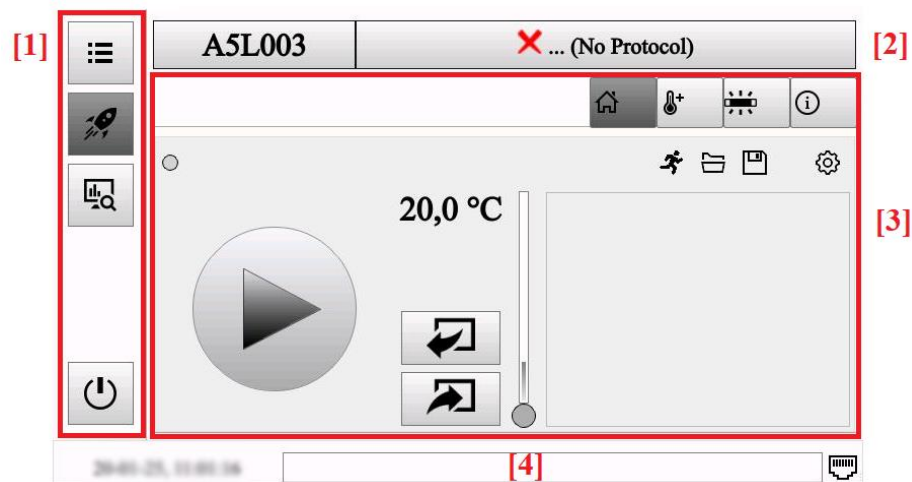
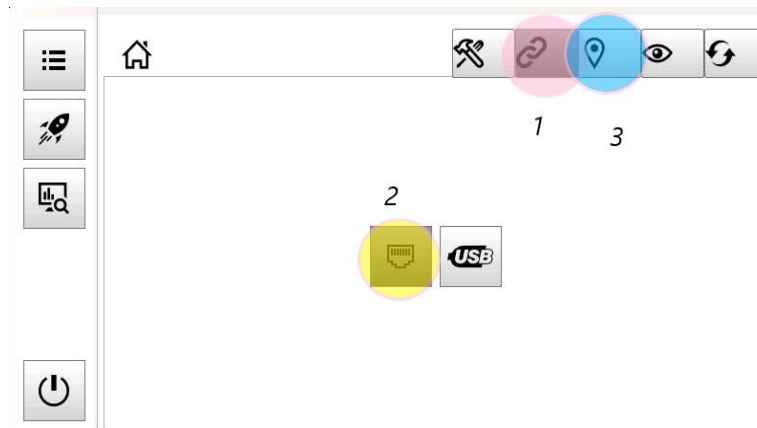

Fig 3 – DTprime_2 Start window interface
Figure 4 – Connection tab
The DTprime_2 Start window will open immediately after loading (Fig. 3).
Press the **Settings**  button on the Start window of the instrument (Fig. 3); in the Settings menu press the Connection tab  (1) on the upper panel and select the **Ethernet**  (2) connection type. Then press the Instrument network Settings tab  (3) on the upper panel to select the instrument network connection mode (Fig. 4).